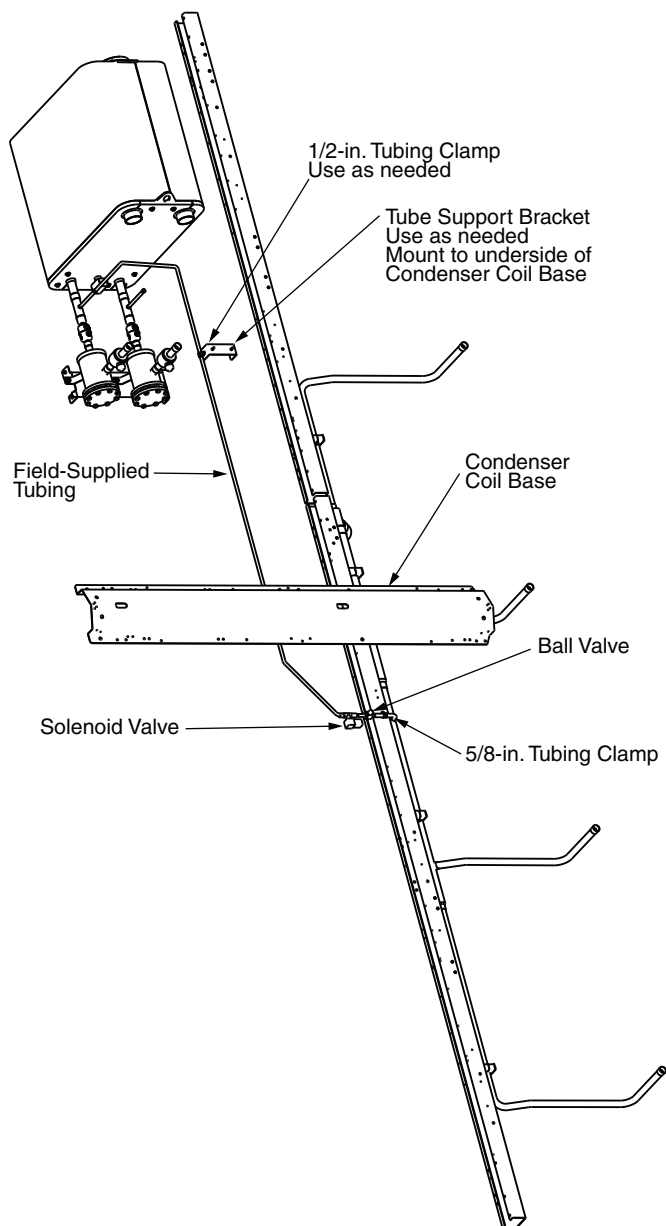

Fig. 6 — Typical Piping Brackets — BPHE Evaporators
- e. Clamp the 5/8 in. tube (Item 4 or 5) to the rail using the 5/8 in. tube clamp (Item 7) provided in the kit. See Fig. 6 and 7. The 30RC232 and 252 units will require a spacer (Item 12) placed between the rail and the 5/8 in. tube (Item 4). Use screws (Item 11) to attach to the rail.
Use field-supplied 1/2 in. OD copper tubing and fittings (as required) to plumb from the solenoid valve outlet to either the adapter tube in the DX cooler or stub tube in the liquid line depending on evaporator type. Tube support brackets (Item 8) and 1/2 in. tubing clamps (Item 10) are provided with the kit. Install brackets (Item 8) to the bottom of the coil bases using screws (Item 9) to support tubing. See Fig. 6 and 7.